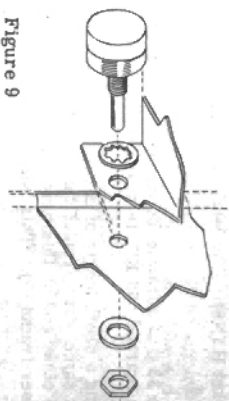

Figure 9
- () Mount the sensitivity control in location M. See Figure 9 for details of hardware assembly. Keep the lugs exactly as indicated in Pictorial 3. On some controls, a small locating lug protrudes from the front of the control housing. If this interferes with the mounting, cut it off or bend it over.
- () Mount the phone jack (see Figure 9 and Pictorial 3) in location L. Keep all lugs oriented exactly as indicated.
- () Attach the free end of the 1 1/2" lead from M3 to the ground lug of the 1-lug and ground terminal strip (NS).
- () Attach the free end of the 47 KΩ resistor (yellow-violet-orange) to terminal strip E2 (NS).
- () Attach the free end of the 1 KΩ resistor (brown-black-red) to lug L2 (NS) on the phone jack. Be sure to use the previously prepared insulated sleeving.